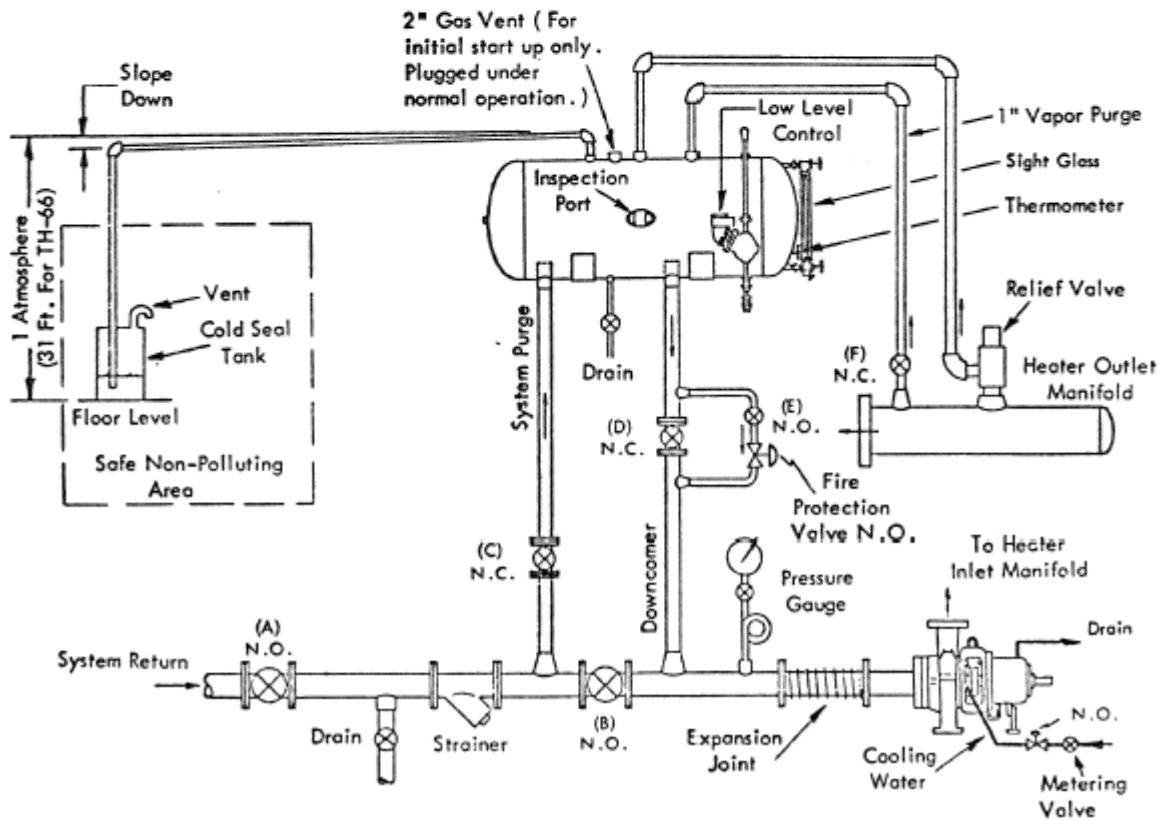

Figure 14, Typical Vented (Cold Seal) Tank Installation
13.8.9 An alternate means of preventing moisture from entering the expansion tank would be the cold seal method (see Figure 14). The vent line from the expansion tank is assembled into a separate 55 gallon drum. The line should be positioned approximately 2 inches above the bottom of the drum that is filled approximately one-half full with the same fluid that is utilized in the system. The 55 gallon drum must be provided with a vent line off the top to vent vapors that may be carried over from the system. The top of the drum must be sealed or covered to prevent entry of moisture. As shown in Figure 14, the vent line must be high enough (31 feet) to prevent suction of contaminated oil in drum back into the expansion tank.